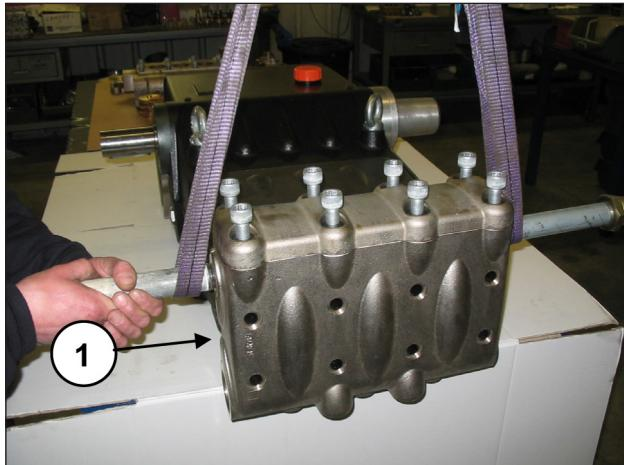
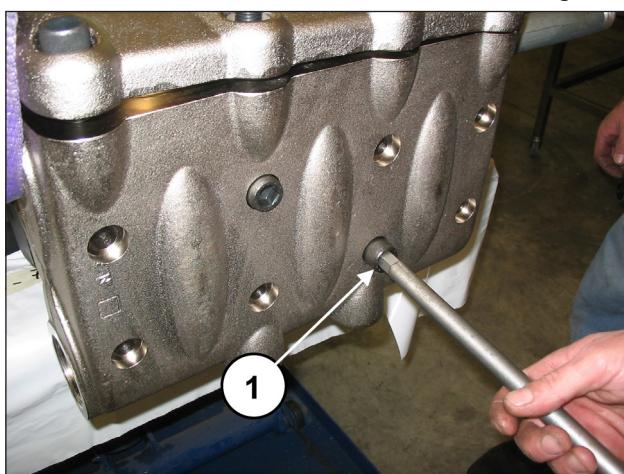

Fig. 134
Fig. 135
Assemble the head on the pump casing (pos. ①, Fig. 134) taking care not to hit the pistons and screw in the 8 M16x150 screws (pos. ①, Fig. 135).
Tighten the 8 M16x150 screws starting crosswise from the 4 inner screws (see Fig. 135), to then continue with the 4 outer screws, always tightening crosswise.